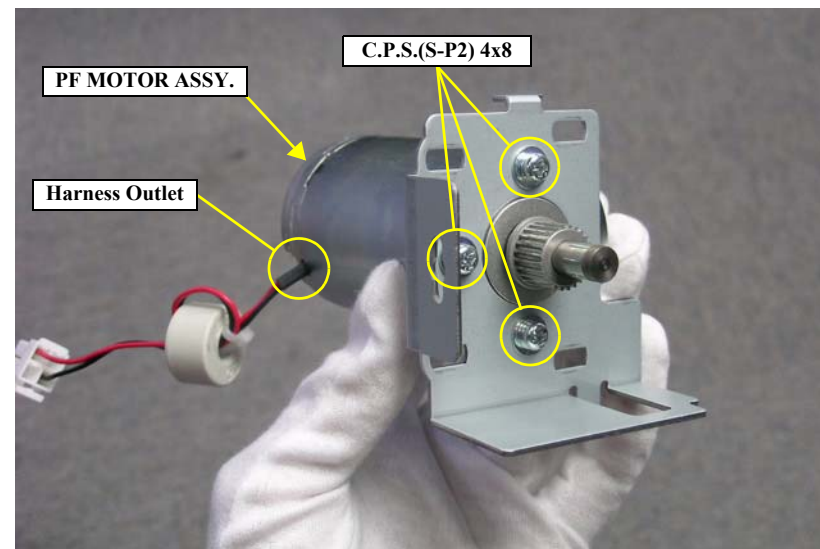

Figure 4-87. Removing the PF MOTOR ASSY.
9. Remove the three screws that secure the PF MOTOR ASSY. and remove it. See Figure 4-87.
Reinstall the PF MOTOR ASSY. so that the harness outlet of the assy. faces toward the rear side of the printer. See Figure 4-87.